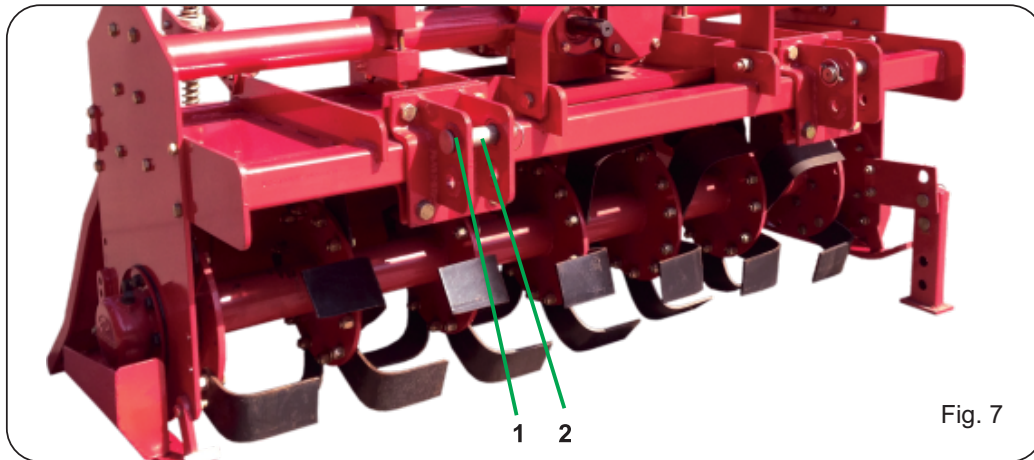

Fig. 7
Depending on the precise dimensions of these two types of hitches, find the best position for the machine by moving the plates (1 Fig. 7) along the square tubular and inserting the pin (2 Fig. 7) in the holes corresponding to the correct diameter for the tractor's parallel arms.
The plates (1 Fig. 7) must always and only be mounted as shown in Fig. 7 with the holes towards the front of the square tubular.
- 1) Near the lift bars, setting them in the most suitable plates (2 Fig. 7). Insert the pin (1 Fig. 7) into the relative hole and lock in place with the snap-in split pins.